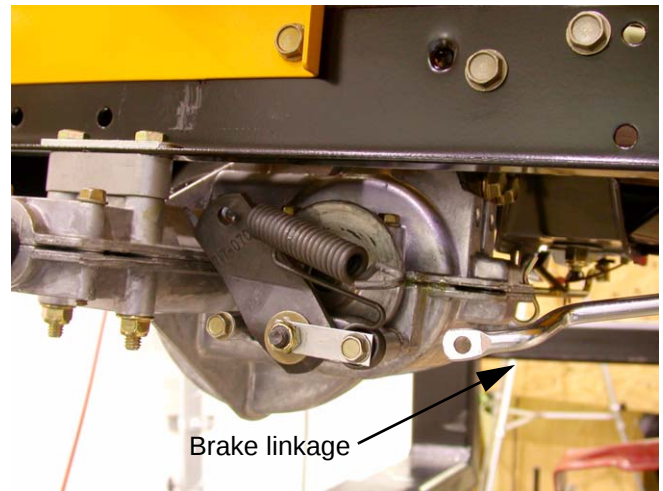

Figure 21.7
- 21.7. Disconnect the brake linkage where it connects to the brake spring. See Figure 21.7.